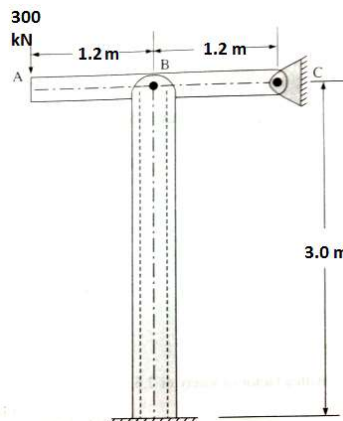

Fig.7
- (b) A horizontal beam ABC 2.4 m long is pinned to a support at C and supported by a vertical aluminium tube 3.0 m long as shown in Fig.7. The upper end of the tube is hinged to the beam while its lower end is firmly fixed. The beam carries a load of 300 kN at A. Find the thickness of the tube if its outer diameter is 120 mm. Allow a factor of safety of 2 with respect to Euler critical load. Take $E = 7.2 \times 10^4 \text{ N/mm}^2$.